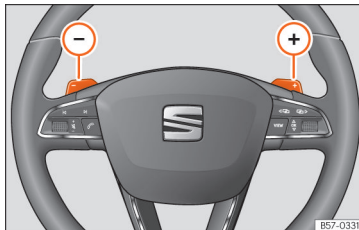

Fig. 143 Steering wheel: automatic transmission levers
- Press the gearshift paddle (+) to select a higher gear »» Fig. 143.